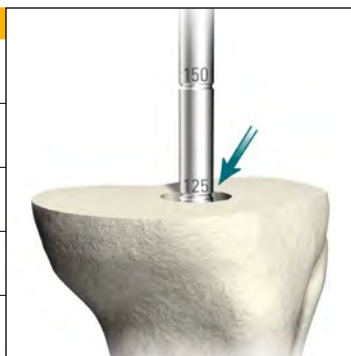

Figure 2D
- Ream to the desired depth of stem or to a length of fixation preferred for tibial alignment. Grooves along the shank of the reamer indicate the depth of the reamer in the canal. (**Figure 2D**)
4. If the reamer diameter is less than 16mm, prepare for the boss or offset of the tibial component by reaming over the top of the IM Reamer shaft with the Boss/Offset Reamer (**Figure 2C**). Ream until the Boss/Offset Reamer bottoms out on the IM Reamer or until the depth groove lines up to the planned resected bone depth. (**Figure 2D**)